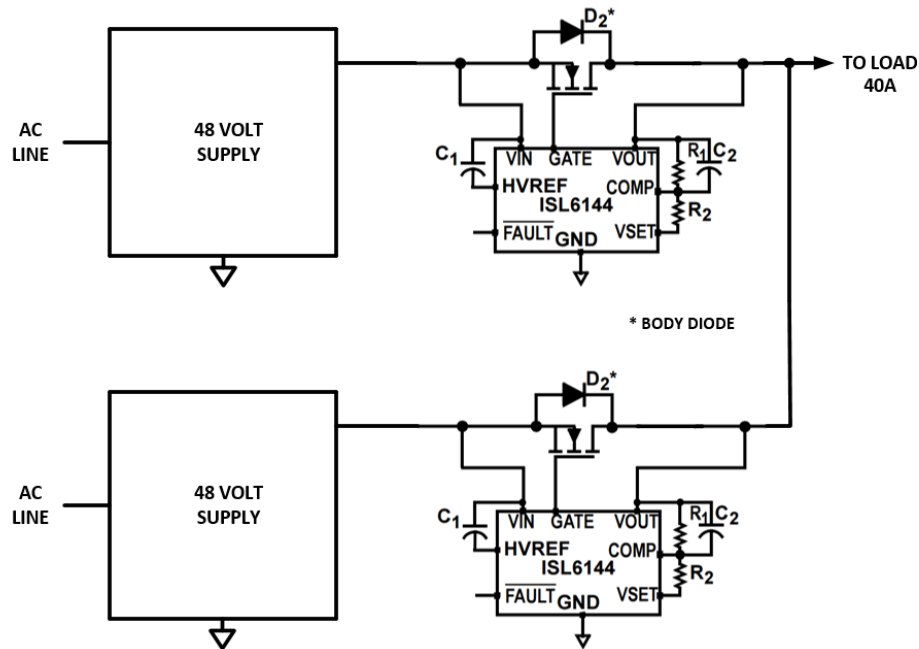

Figure 2. High current redundant power supply using ORing MOSFET controllers
In high load current applications, power consumption can be reduced if the ORing diodes are replaced with MOSFETs managed by a high voltage MOSFET ORing controller, such as Intersil's ISL6144. Figure 2 shows the ISL6144, which includes an on-chip charge pump for driving a power FET. The controller also includes features that allow it to shut down its output if the input supply fails. This helps prevent transients when another redundant system controller sources its output load-current. Using an ORing MOSFET controller reduces power loss and enhances reliability.
- 2) Pick a FET with a current rating that can support the bus load. The Figure 2 example shows a redundant system where either 48V supply could fail. If a supply failure occurs, the other power supply will need to send the full 40A load through one ORing FET. Therefore the FET would need to be rated for more than 40A.